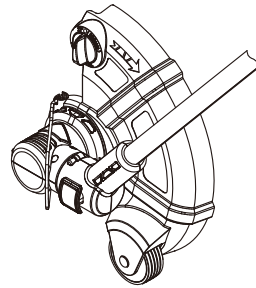
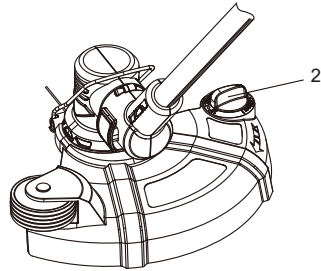
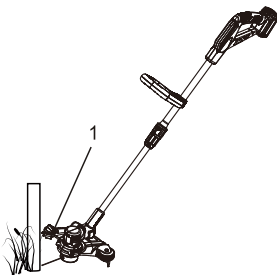

Fig. 10
Fig. 12
Fig. 20
2. Press the quick button labeled “Pressed for Edging” (2) to rotate the trimmer head to vertical position automatically as (Fig. 10).
1. Press the switch knob (1) down to rotate line trimming knife 180° (Fig.12) and release the knob.
To protect the trimmer line from damaging a post, deck etc., lower the trimming guide (1) and configure the trimmer (Fig. 20). See Fig. 10 for instructions on lowering the trimming guide. If the trimmer line is too long and contacts the post or deck, rotate the line limiting knife as outlined in Fig. 12 so it will cut the line to a shorter length and avoid damaging the object.
2. Press the button named "Press for edging" so the guard is parallel with the telescoping tube (Fig. 10).